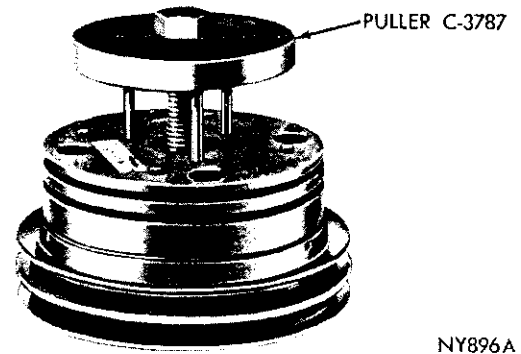

Fig. 2—Removing Hub and Shoe Assembly
- (1) Remove the small snap ring from the drive hub.
- (2) Install drive hub puller Tool C-3787 aligning the three pins of the Tool in the three holes in the hub and shoe assembly. Tighten the hex head bolt down until the drive hub is removed from the bearing (Fig. 2).
- (3) Remove bearing snap ring from pulley.